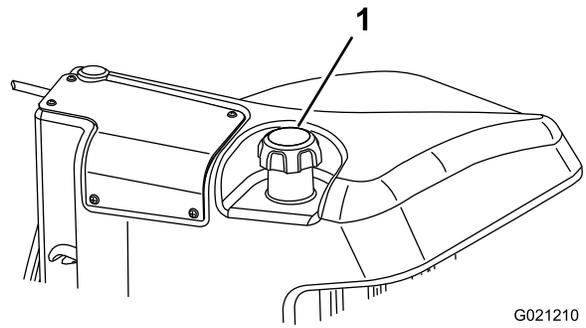

Figure 46
3. Remove the cap from the fuel tank (Figure 46).